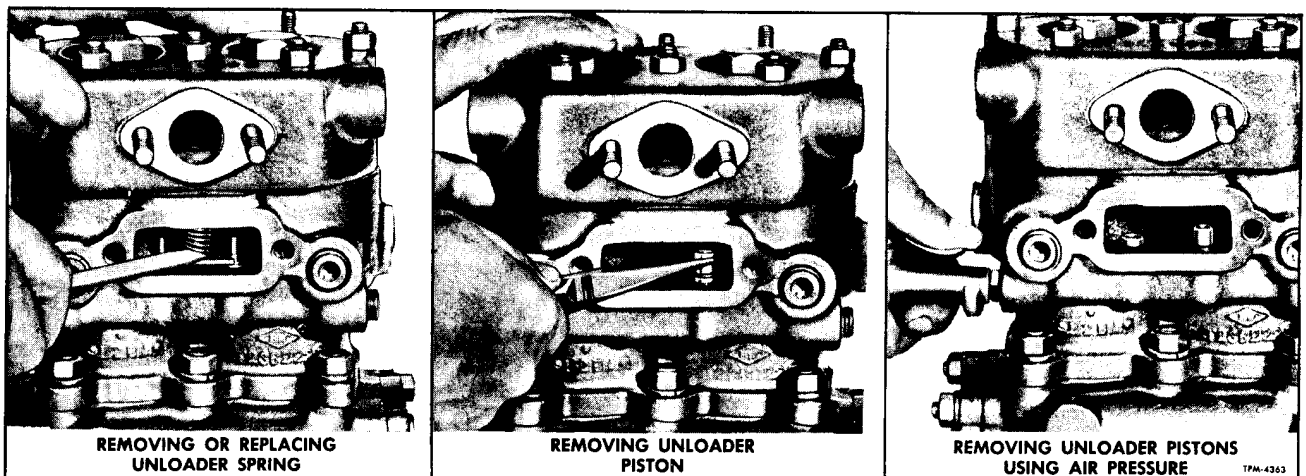

Figure 6—Removing Unloader Components
REMOVAL (Fig. 6)
3. Lift each plunger guide and remove guide and plunger. Lift pistons out of bores. If piston is not easily removed, build up air pressure in system until governor cuts out, raising piston. If compressor has been removed from vehicle, use air pressure as shown in figure 6.